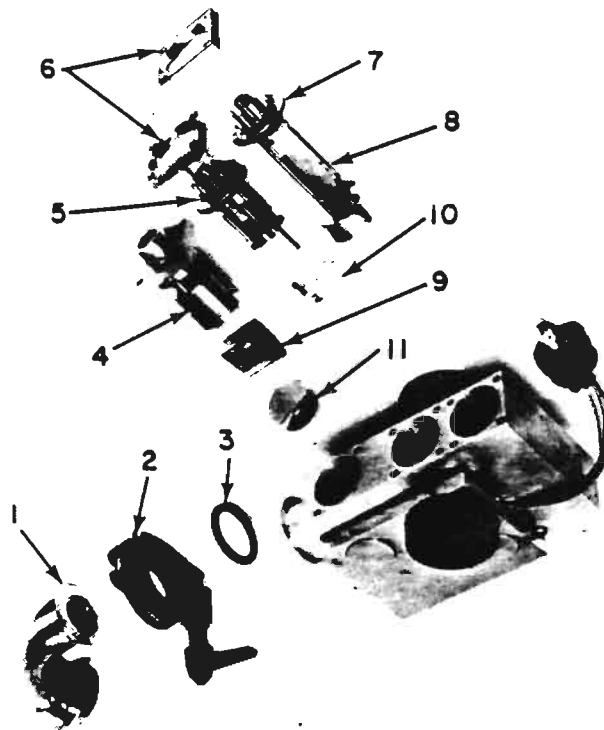

Fig. 8-7. Spectrometer Tube Assembly
**SPECTROMETER TUBE ASSEMBLY (Fig. 8-7)**